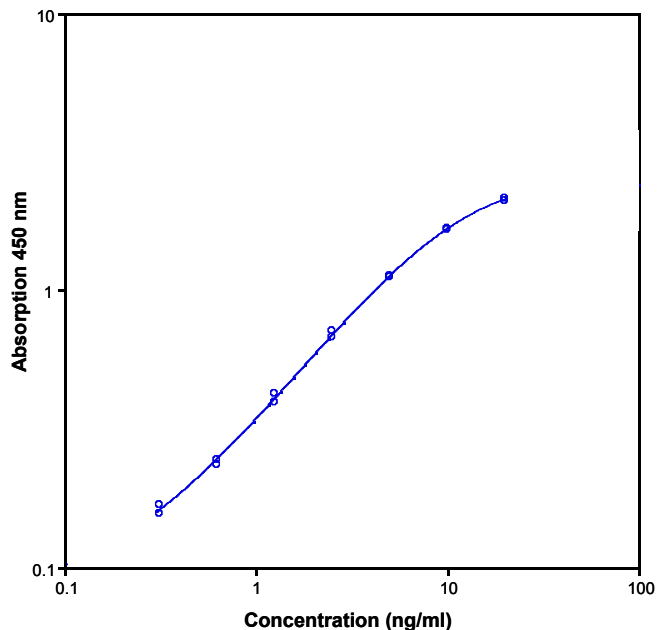

Fig. 8 Representative standard curve for Human Fibronectin ELISA Kit. Human Fibronectin was diluted in serial 2-fold steps in assay buffer (1x).
- A representative standard curve is shown in Figure 8.